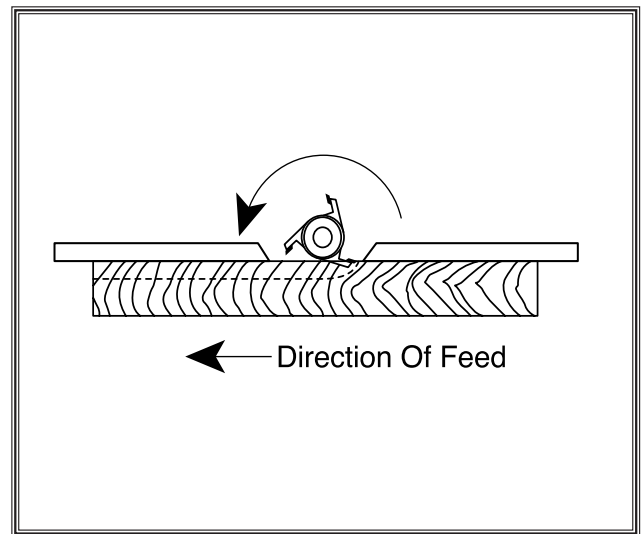

Figure 44. Fence setup for partial-edge removal operations (Guard Removed For Clarity).
4. Adjust the outfeed fence so that it comes into alignment with the infeed fence as shown in **Figure 44**.
Also, examine the grain on the side edge of the board. Whenever possible, run the board so the shaper cutters are cutting with the grain as shown in **Figure 44**. This will minimize the chance of tear out.